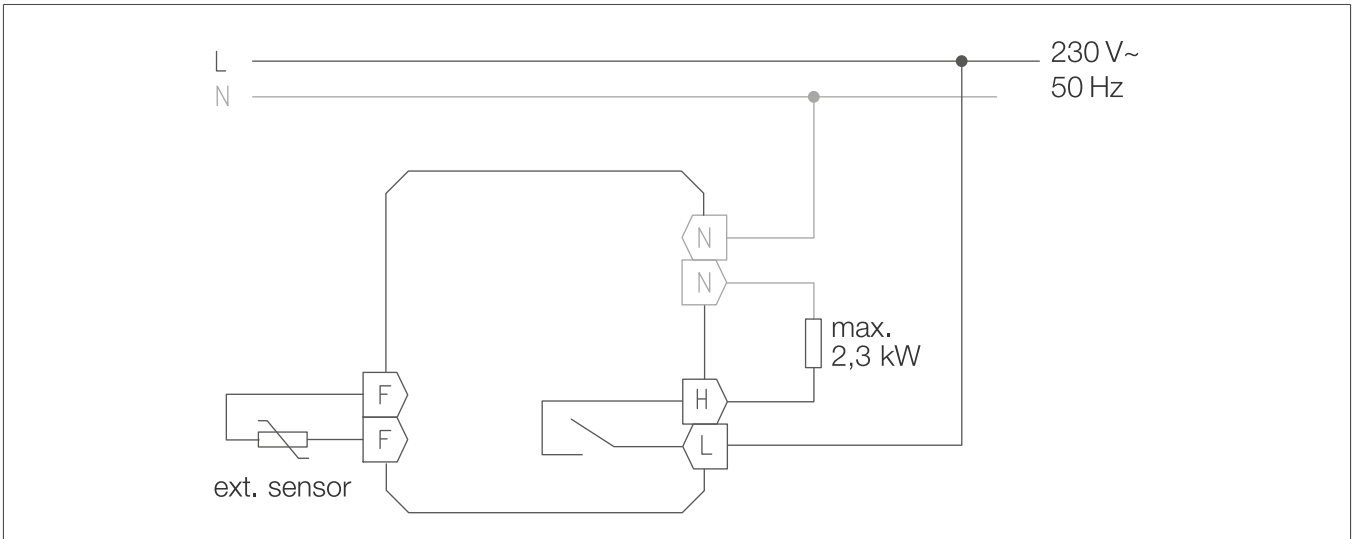
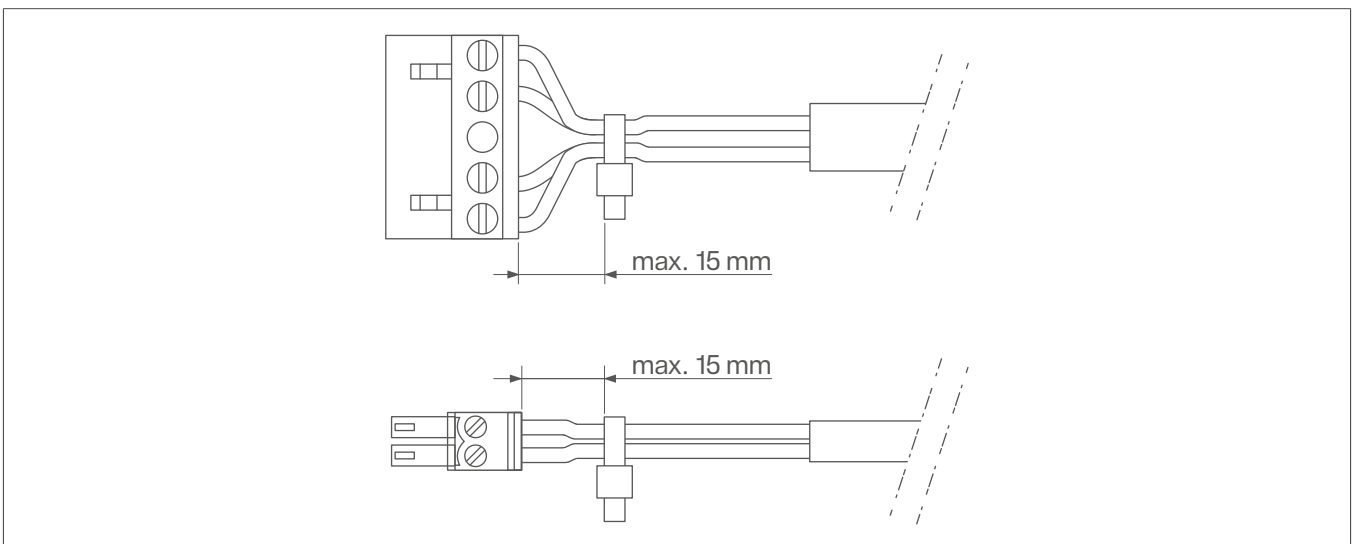

Fig. 16: Connection diagram
Fig. 17: Terminal block for power supply (top), temperature sensor/SELV (bottom)
- 1 Connect the room thermostat according to the connection diagram (Fig. 16). To do this, prewire the connection cables with the two screw terminal blocks (Fig. 17).